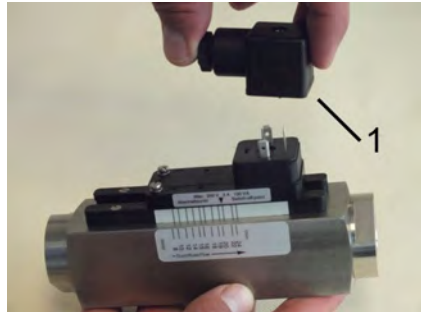

Fig. 54: Remove female socket
2. ➤ Remove the female socket and gasket (Fig. 54/1) by pulling upwards